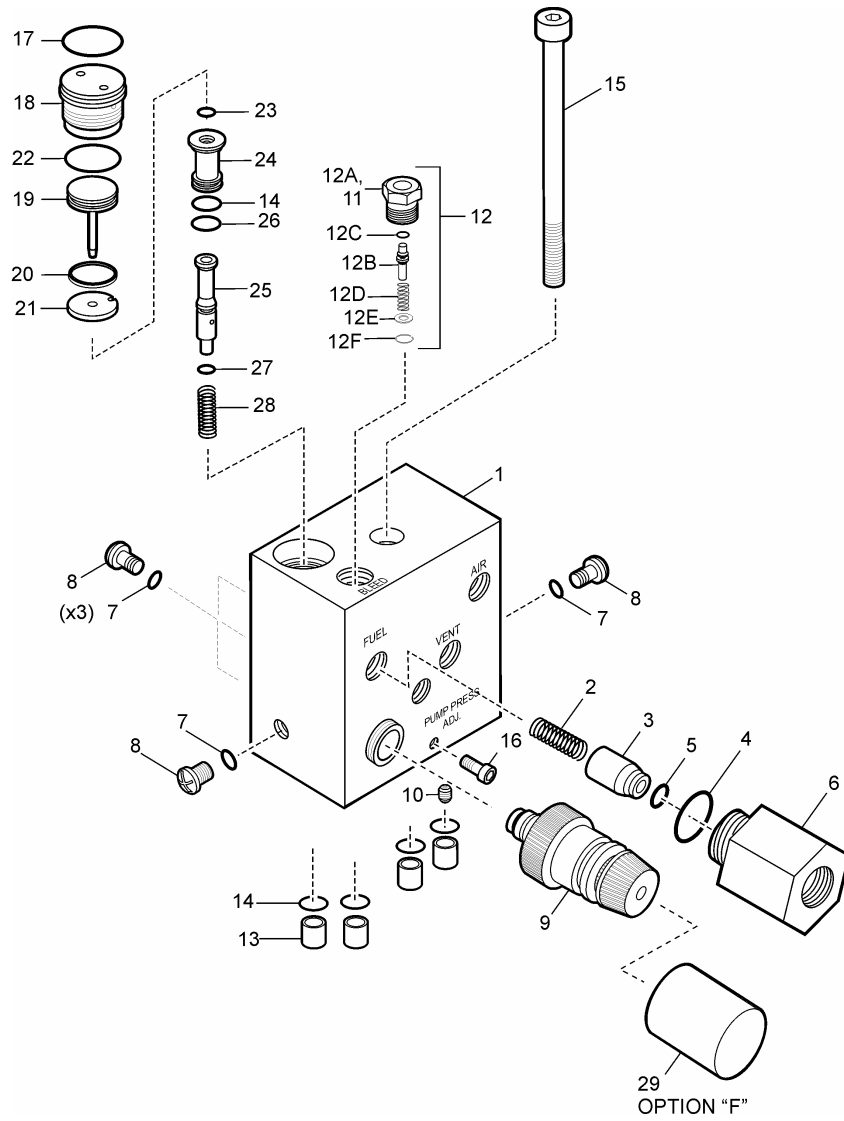

Figure 2
- 6.5.7 If bleed valve was disassembled begin by placing O-ring (2-12C) over the Poppet (12B). Lay Plug (2-12A) upside down and insert assembled (2-12B) [Reference Figure 2]. Place Spring (2-12D) over the shaft of Poppet (2-12B). Place the Washer (2-12E) on the Spring (2-12D). Compress assembled unit thus far and use snap or lock ring pliers to separate the Retainer (2-12F) and install in the retainer groove on the inside diameter of the bleeder Plug (2-12A).
Reference Figure 2